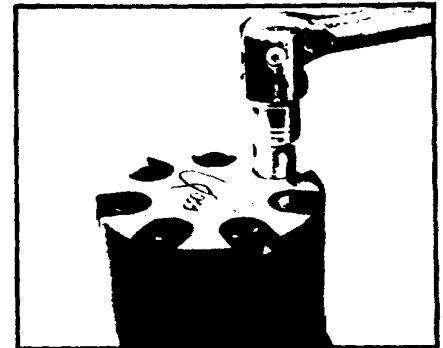

Figure 4
2. Remove the seven special ring head bolts (2) using a Y2 inch thin wall socket to enter the end cover bolt head recess. SEE FIGURE 4. Inspect bolts (2) for damaged threads, or sealing ring, under the bolt head. Replace damaged bolts. SEE FIGURE 5.